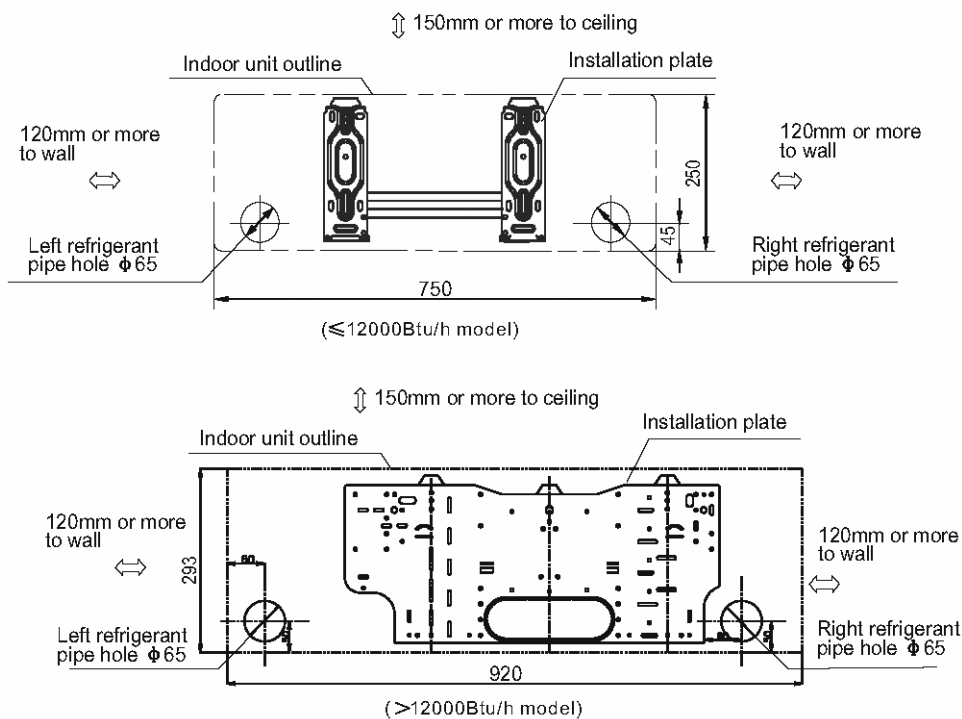

Fig.5
1. Determine hole positions according to the diagram detailed in Fig.5. Drill one (1) hole (Φ 65mm) slanting slightly to outdoor side.